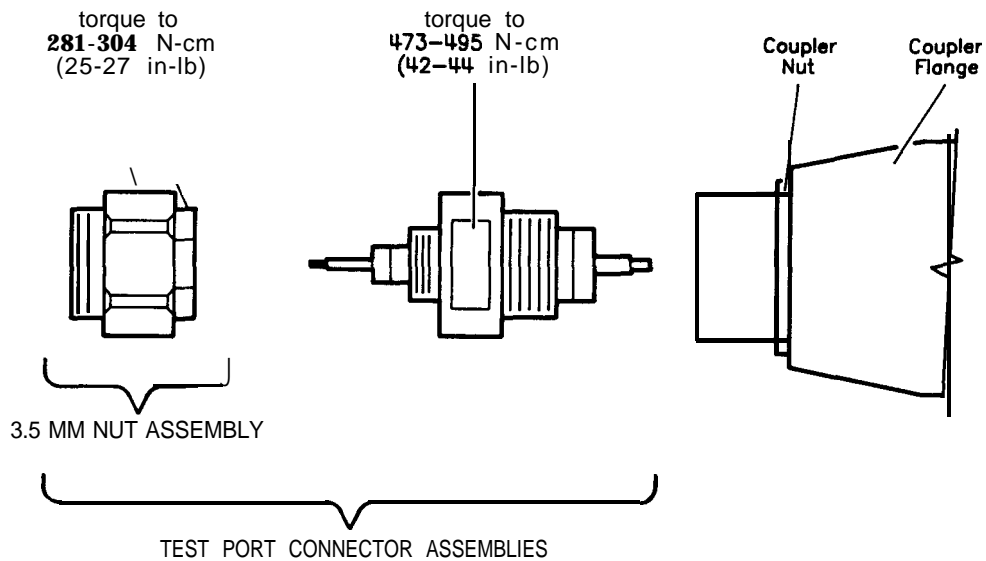

Figure 5-8. Exploded View of the 3.5 mm Port Connector
Refer to Figure 5-8 and the following text to replace or repair these 3.5 mm test port connectors.
2. Replace with a new test port connector assembly using a **5/8** inch torque wrench to the limits called out in Figure 5-8.
3. Torque with a **9/16** inch torque wrench to the limits set in Figure 5-8.
(13) POWER TRANSFORMER